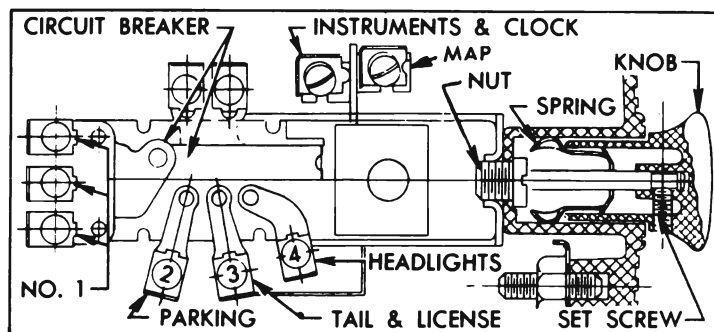

Figure 10-67—Lighting Switch
2. Loosen knob retaining set screw with a  $\frac{3}{32}$ " Allen wrench and remove knob from rod. Remove switch mounting nut with Wrench J 1589 and remove switch from panel. See figure 10-67.